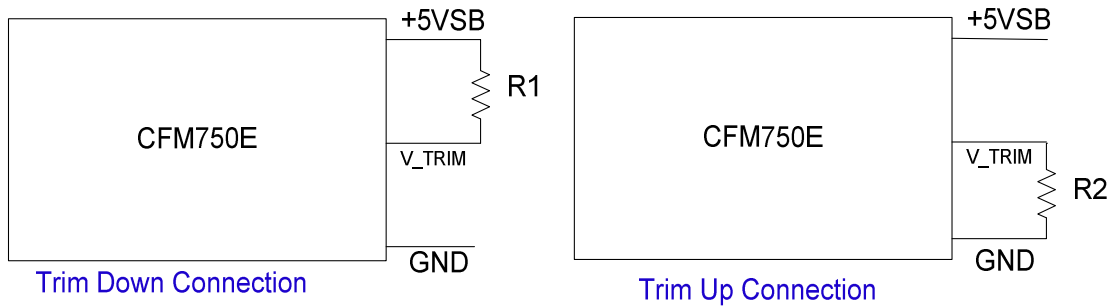

Fig 3.2: Typical Trim Connection
Refer to Fig3.2 typical connection. When trimming up output voltage, connect one resistor (R2) to signal ground and left R1 open. When trimming down output voltage, left R2 open and connect one resistor (R1) to 5V standby output. Formula (1), (2) give the select methods.